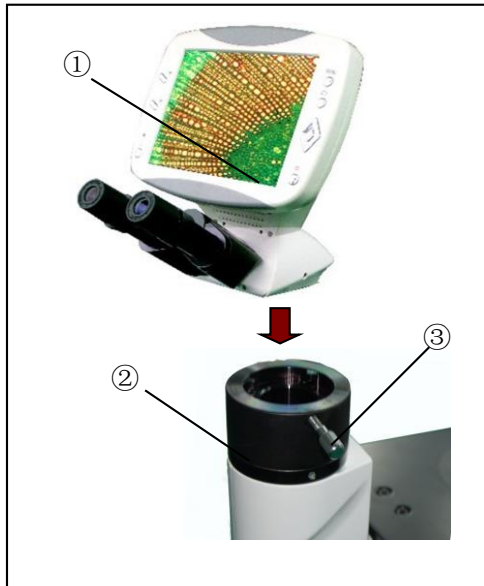

Fig 1
2.2.1 Installing viewing head (fig 1)